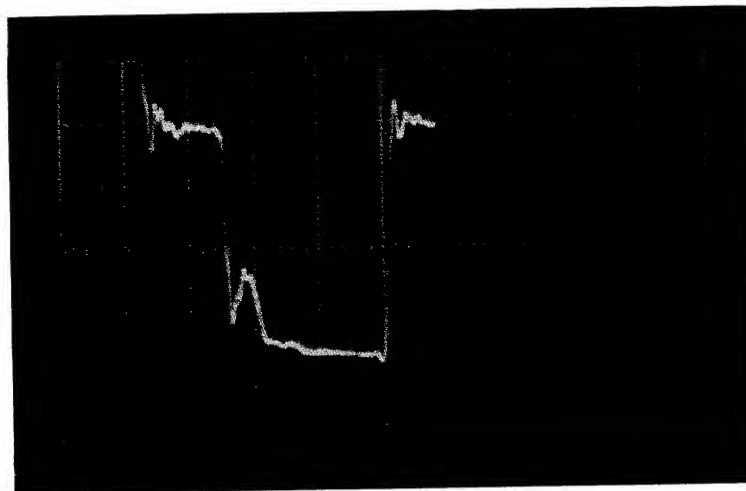

Figure 3-4 Negative Memory Current
- 6 At the scope, set the Channel 2 GND reference 2 cm above the center graticule and observe the negative waveform. As shown in Figure 3-4, it should be approximately 350 mA +5%..